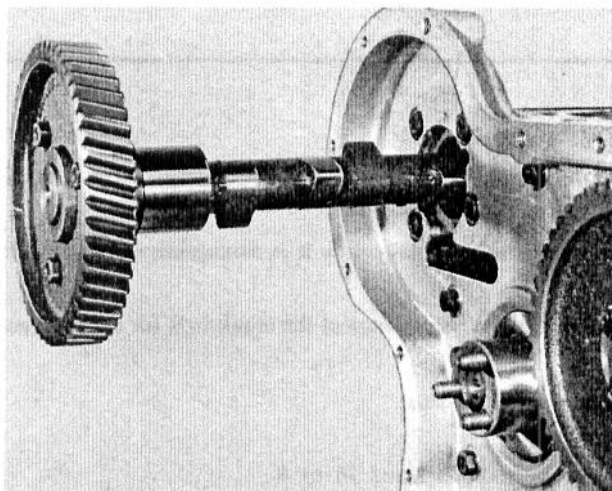

Fig. 22 — Removing or Installing the Camshaft
3. Lift the tappets and remove the camshaft as shown in Fig. 22. Use care not to damage journals, cams and tappets.